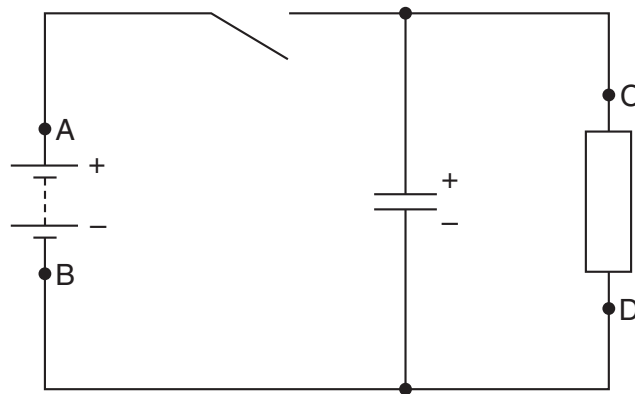

Fig. 4.1
Connecting leads to enable the Supervisor to set up the circuit shown in Fig. 4.1 (see Note 3).
5. At the changeover, the Supervisor should open the switch, remove the voltmeter and check that the circuit is set up as shown in Fig. 4.1.